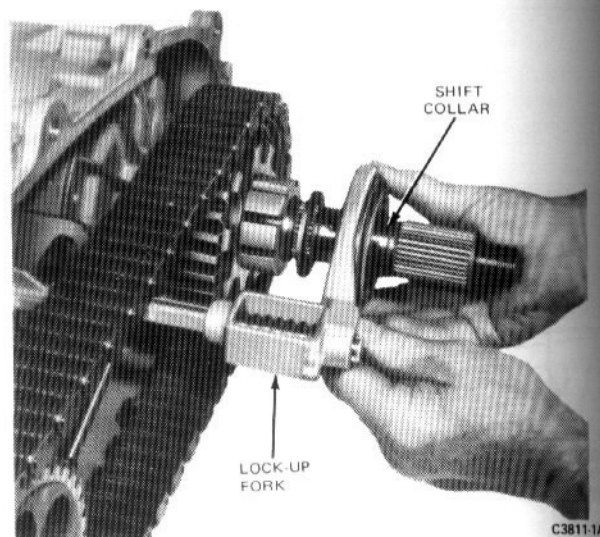

FIG. 8 Removing Lock-up Fork and Shift Collar
9. As an assembly lift out from the case the four-wheel drive lockup fork and the lockup shift collar (Fig. 8). Remove the thrust washer. Be careful not to lose the nylon wear pads on the lockup fork.